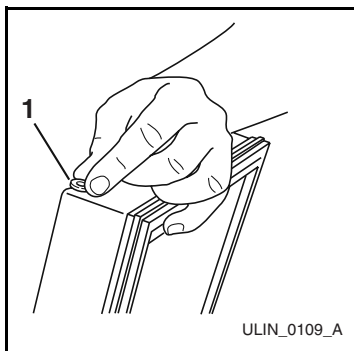

Figure 20
6. Relocate plastic spacer/bushing (**Figure 20, 1**) on bottom of door to opposite side, and place door on bottom hinge pin. Clean out bushing hole in door bottom with a screwdriver if needed.